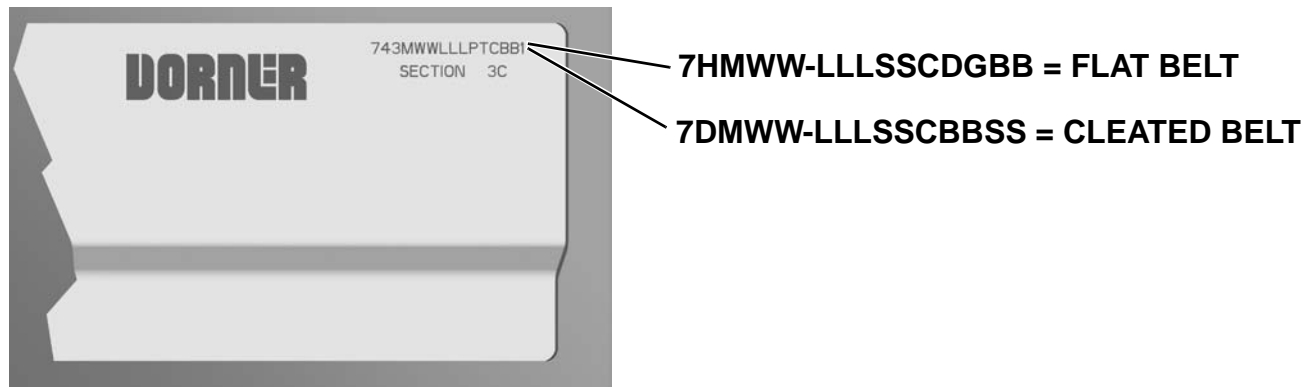

Figure 71
Refer to the model number on the conveyor frame (**Figure 71**). From the model number, determine conveyor width (WW), length (LLL), drive stand location (S), idler stand location (S), cleaning options (C), drive/pulley type (D), profile (G) and belt material (BB).
Refer to the model number on the conveyor frame (**Figure 71**). From the model number, determine conveyor width (WW), length (LLL), drive stand location (S), idler stand location (S), cleaning options (C), cleated belt material (BB) and cleat spacing (SS).